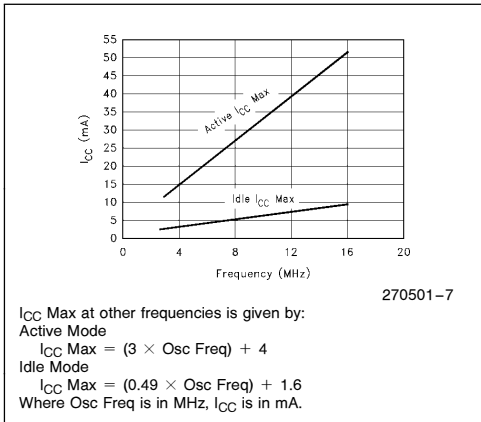

Figure 6. I_{CC} vs Frequency
- See Figures 6–9 for test conditions. Minimum V_{CC} for Power Down is 2.0V.
4. Figure 6 I_{CC} vs. Frequency has been corrected to show test conditions.